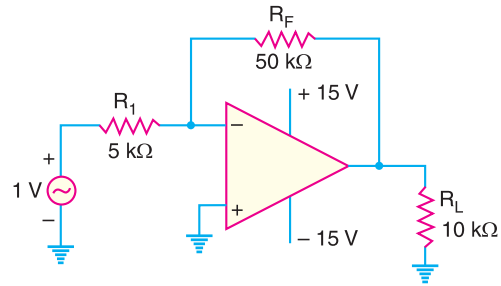

Fig. 25.101
7. For the circuit shown in Fig. 25.101, find (i) closed-loop voltage gain (ii) the instantaneous voltage across R_F when the signal voltage is +1V (iii) the instantaneous voltage on the –terminal when the signal voltage is +1V. [(i) 10 (ii) 10 V (iii) 0 V]